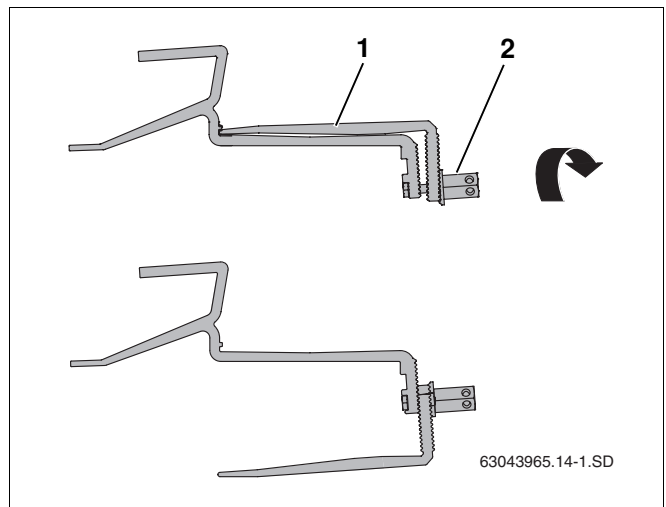

Fig. 12 Turning the lower part of the roof hook
- Loosen the long hexagon nut (Fig. 12, **Item 2**) on the roof hook and move the lower part of the roof hook (Fig. 12, **Item 1**) to the correct position.